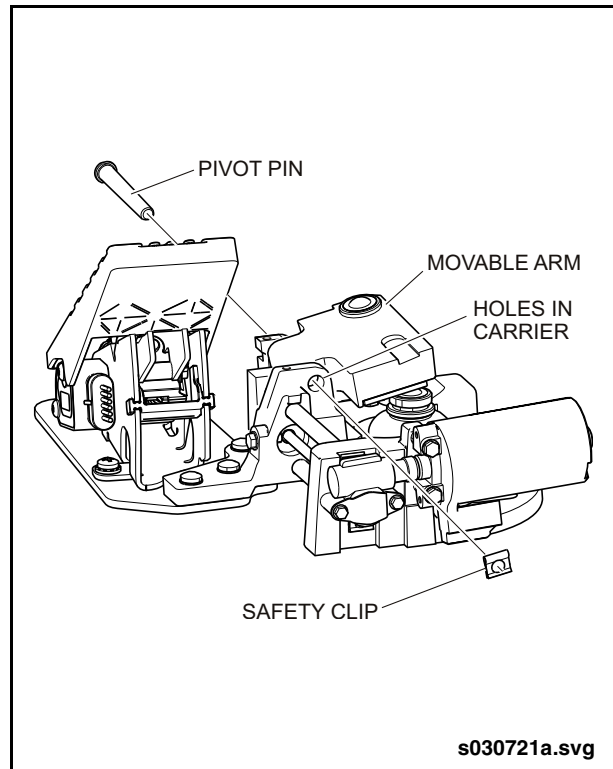

Fig. 3: Moveable Arm Safety Clip
3. Inspect the safety clip to make sure it is secured correctly to the moveable arm pivot pin as follows: See “Fig. 3: Moveable Arm Safety Clip” on page 5.